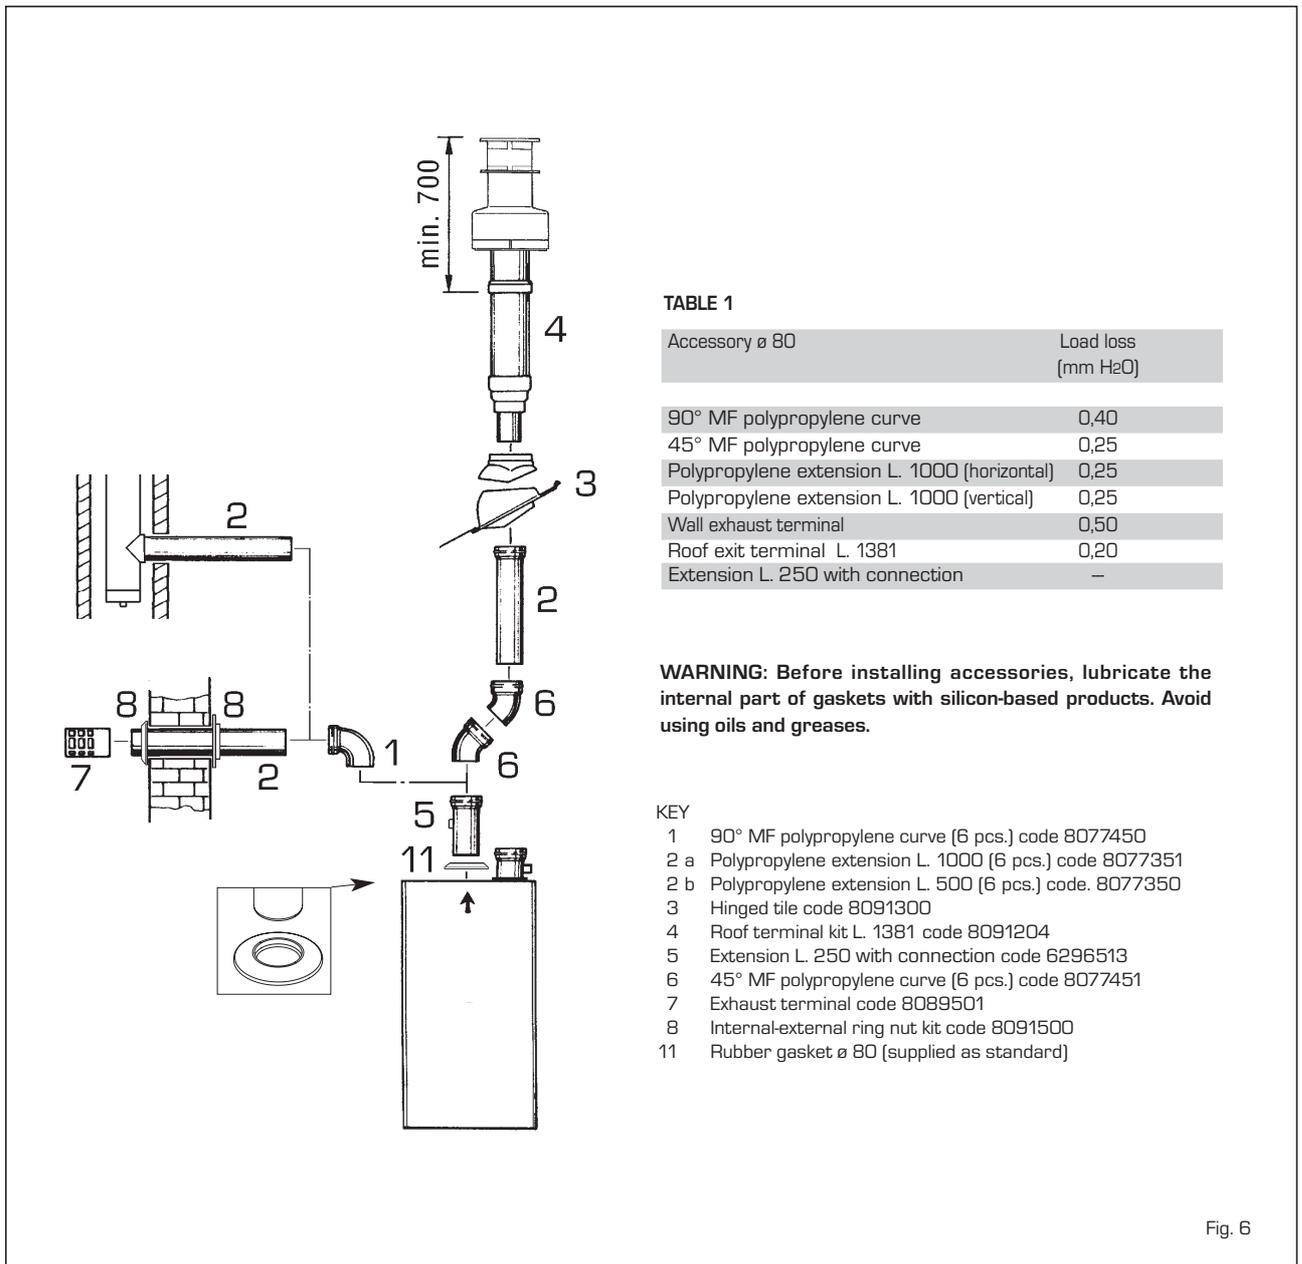

Fig. 6
See **Table 2** for information on the load losses of single accessories and the example of fig. 6/a for information on how to calculate load losses.
2.5.1 Separate ducts kit (fig. 6/b)
The diagrams of figure 6/b show a few examples of the permitted exhausts configurations.